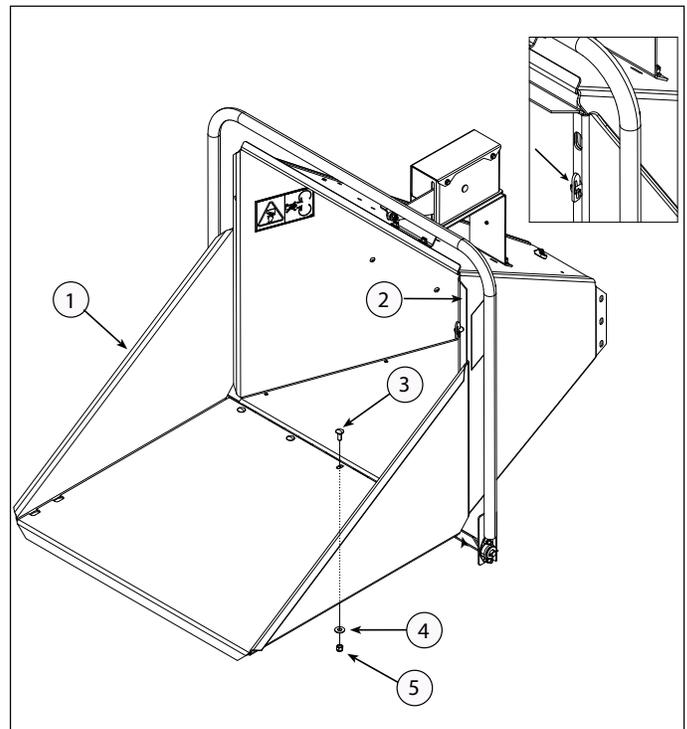

Figure 2.6, Attaching the extension tray
1. Tilt the extension tray (1) up, so the bottom of the tray is facing outward (Figure 2.6). Slide the extension tray lips between the extension hinge and chipper chute lips (2).
3. Insert five 3/8 x 1" carriage bolts (3) (included in owner's kit) through the extension tray and hinge. Secure the bolts with washers (4) and nylock nuts (5) from the bottom.